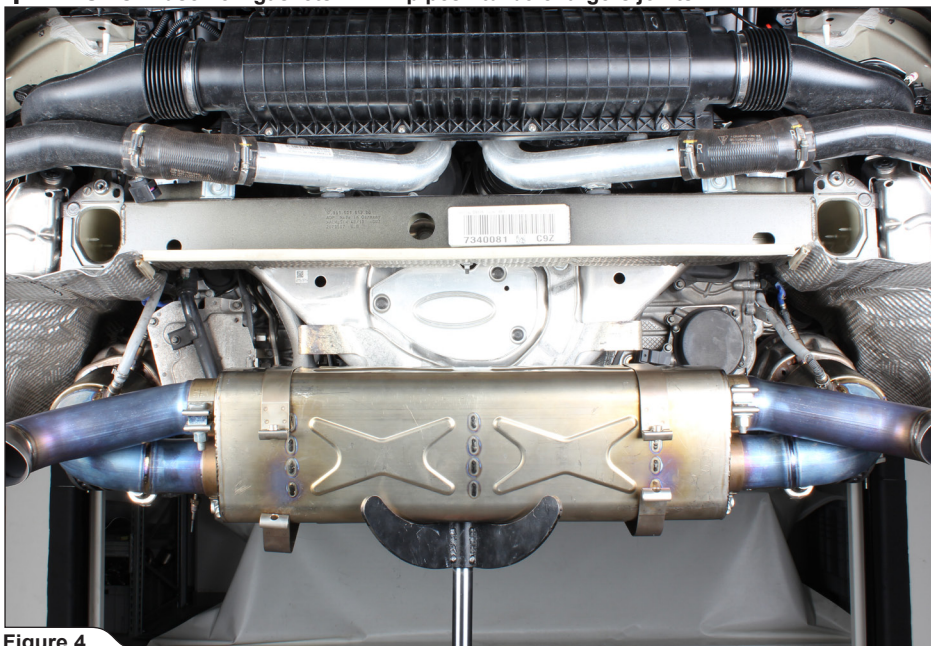

Figure 4
- (Link Pipe Set with catalytic converters: Figure 4, 5)